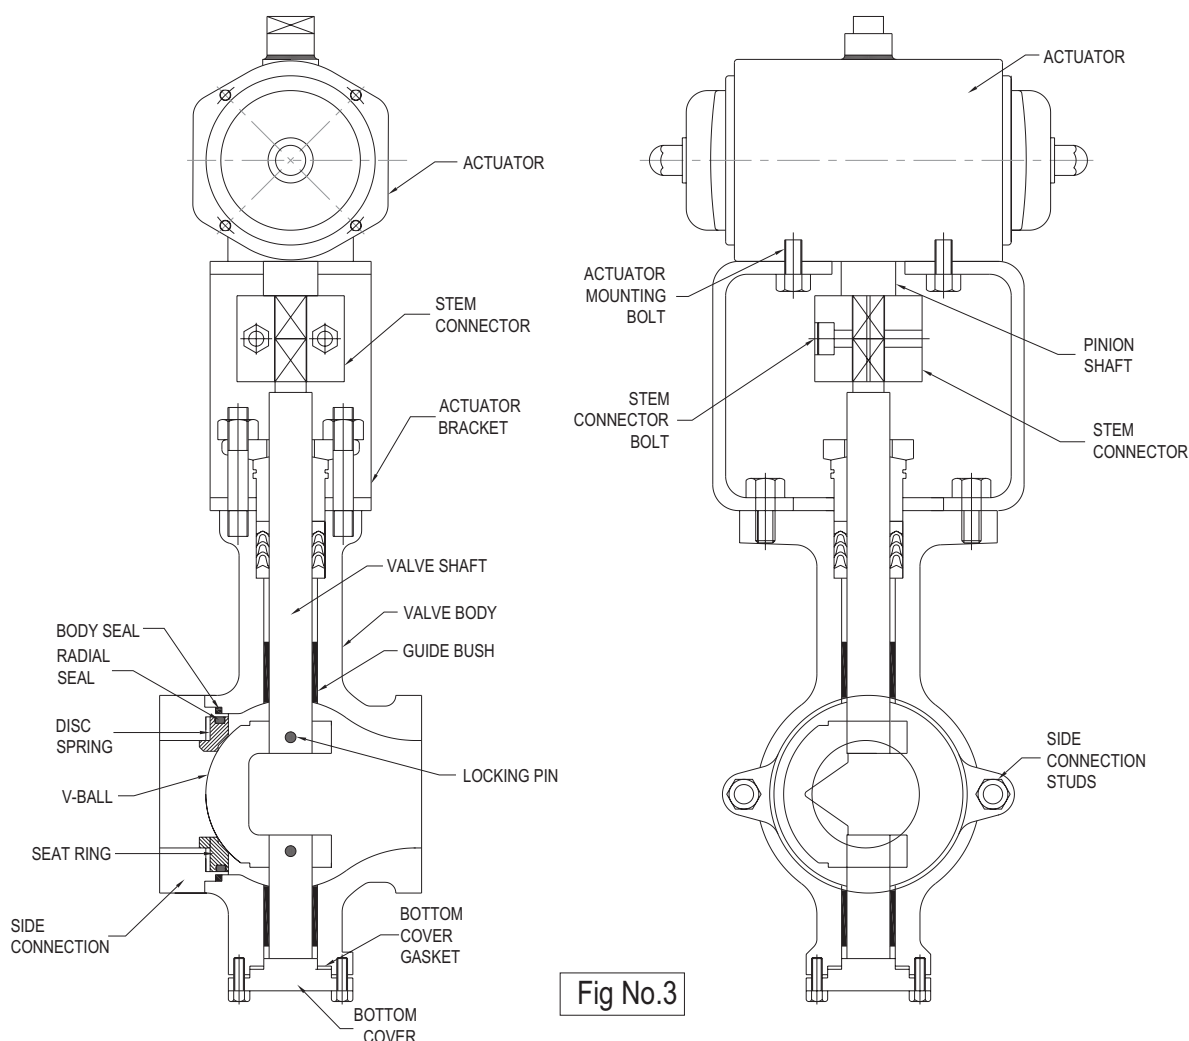

Fig No.3
13.1 Disassembly (figure No.3)
Double Acting Actuator (figure No.3)